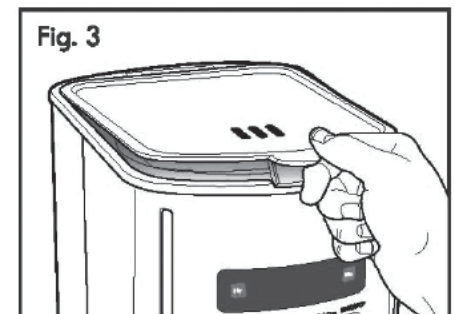

Fig. 3
1. Open the top cover (See Fig. 3).